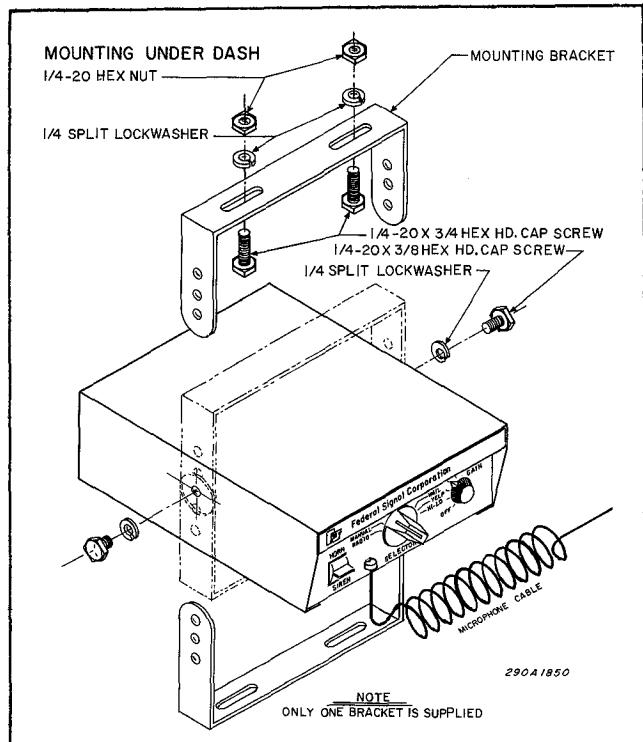

Figure 3-1. Installation of PA300 Under Dash.
The unit should be mounted in a position that is both comfortable and convenient to the operator. Keep visibility and accessibility of controls in mind. To install the unit under the dash, determine the mounting location and proceed as follows (see figure 3-1).
C. Secure the mounting bracket to the dash with (2 each) $\frac{1}{4}$ -20 x 3/4 hex head screws, $\frac{1}{4}$ split lockwashers and $\frac{1}{4}$ -20 hex nuts as shown in figure 3-1.